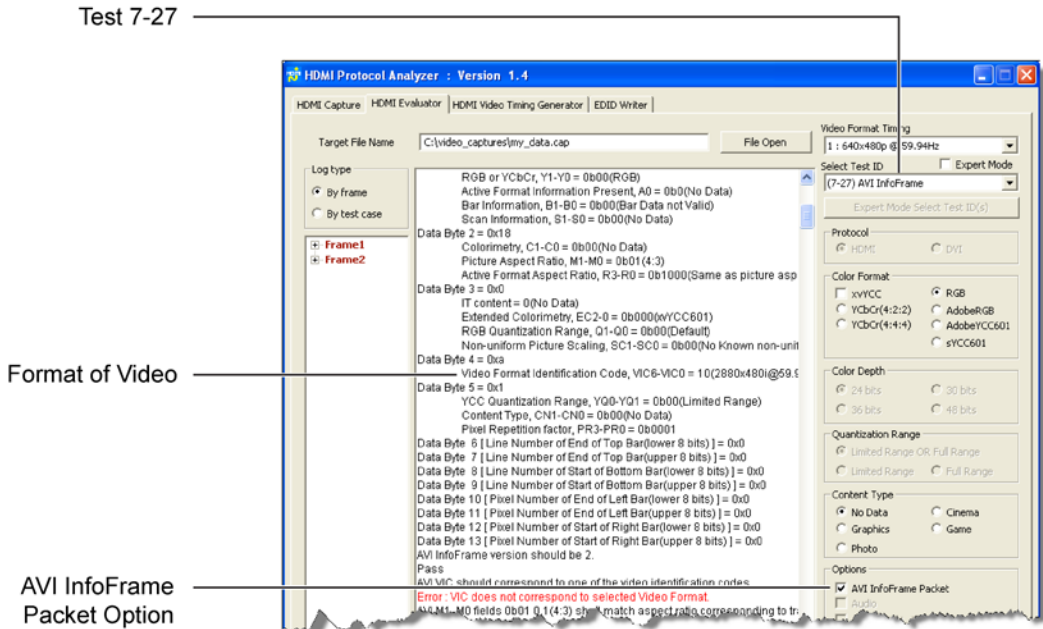

Figure 19 Video Format Shown in Test Results Pane
- 4** In the Test ID field, select (7-27) AVI InfoFrame which is test 7-27 as shown on Figure 19 on page 45.
- 7** In the test results pane, look within the log area for a frame for the line Video Format Identification Code. In the example shown in Figure 19, you can see that VIC 10 is identified.